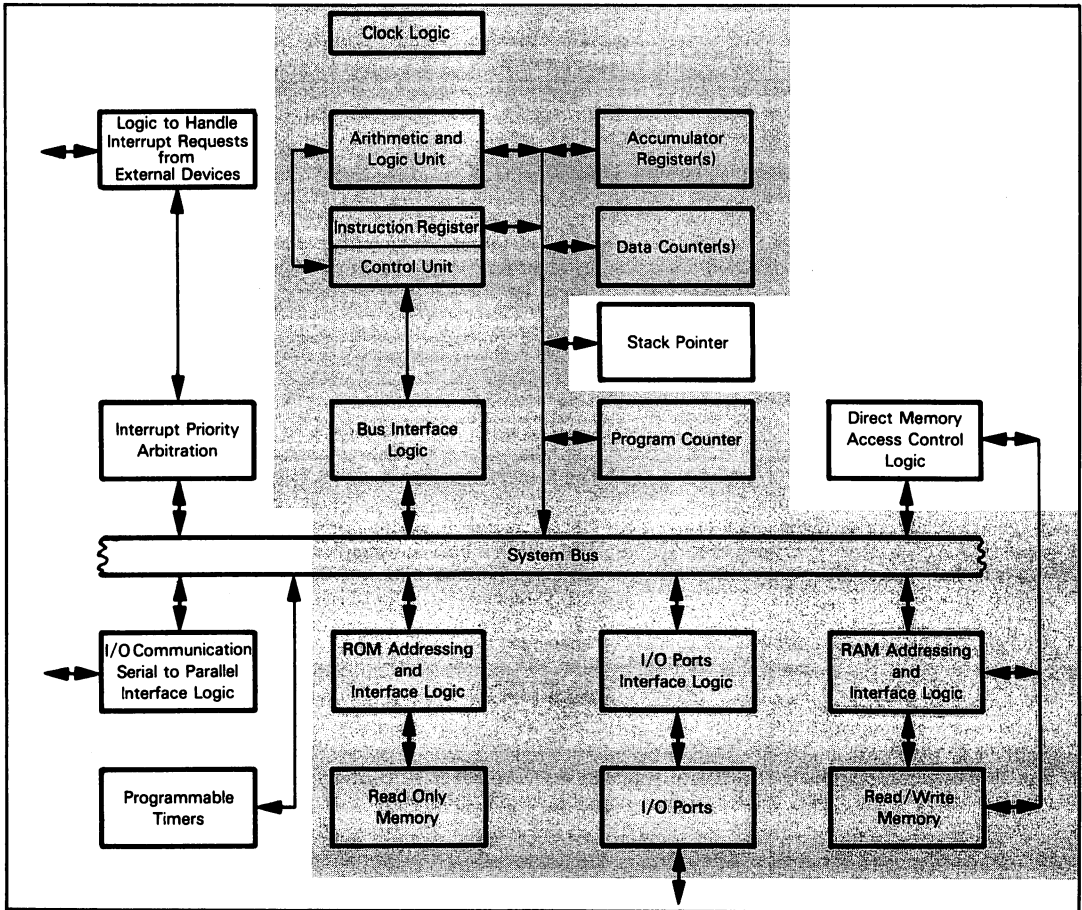

Figure 1-1. Logic of the TMS1000 Series Microcomputer
**Figure 1-1 illustrates that part of our general microcomputer system logic which is implemented by the TMS1000 series microcomputers. This figure is deceptive, since it would be hard to compare the primitive I/O capabilities of the TMS1000 with a device such as the 8255 Programmable Peripheral Interface device, which is described in Volume 3. Nevertheless, Figure 1-1 does indicate the logic which is provided by a TMS1000 series microcomputer, albeit in a primitive form.**